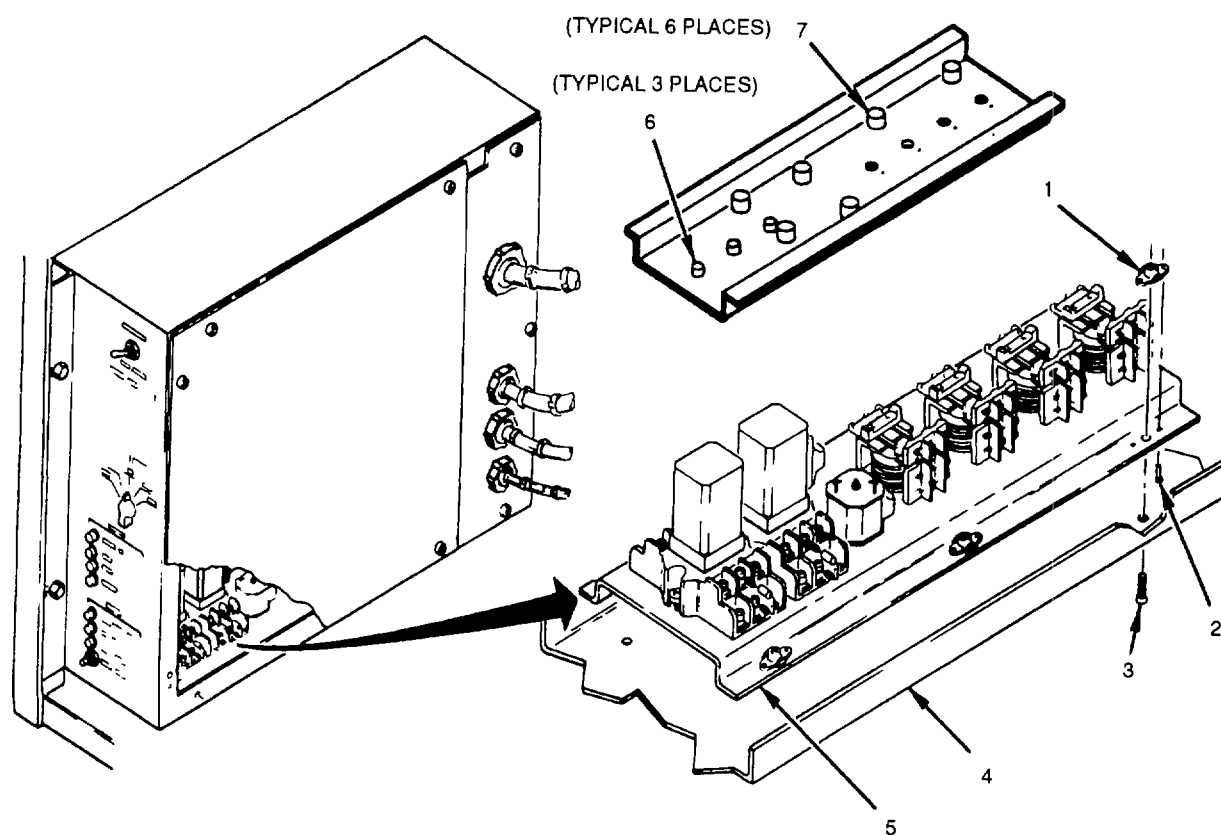

Figure 4-29. Relay Mounting Plate
Inspect plate (5) for missing rivets (2) or damaged floating locknuts (1). Replace if missing or damaged (see fig. 4-29).